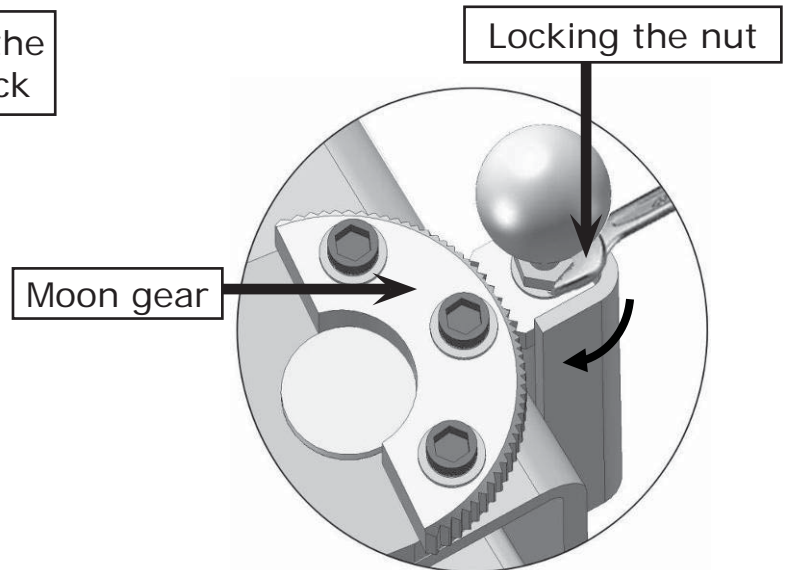

Fig. 26
4. Adjust the moon gear and arm lock, then tighten the nut of arm lock (See Fig. 26).